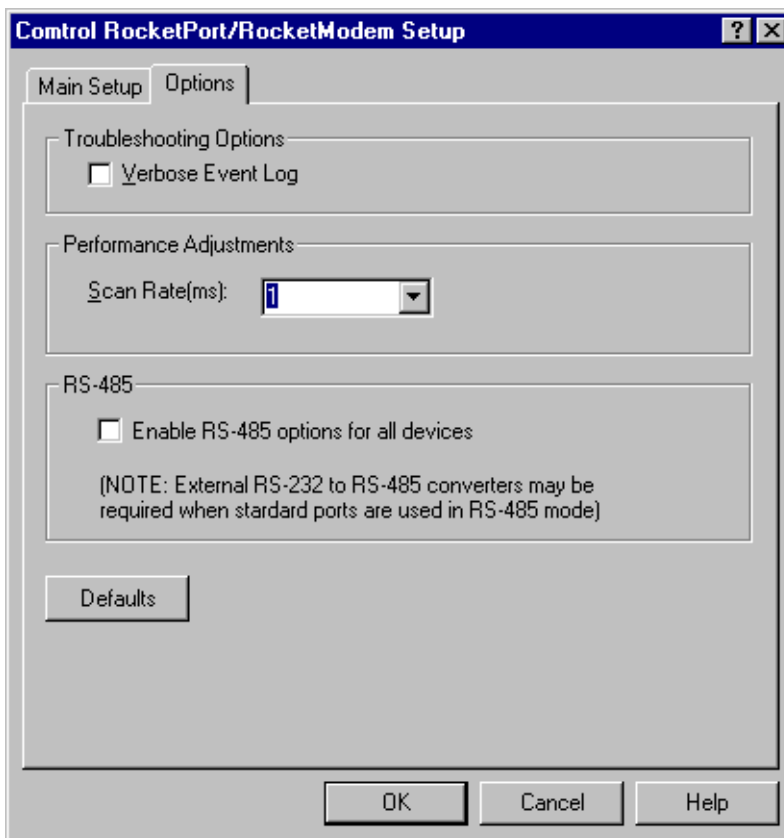

Figure 10. Set the scan rate to 1ms.
15. In the **Options** tab (see Figure 10), set the **Scan Rate(ms)** to 1ms.